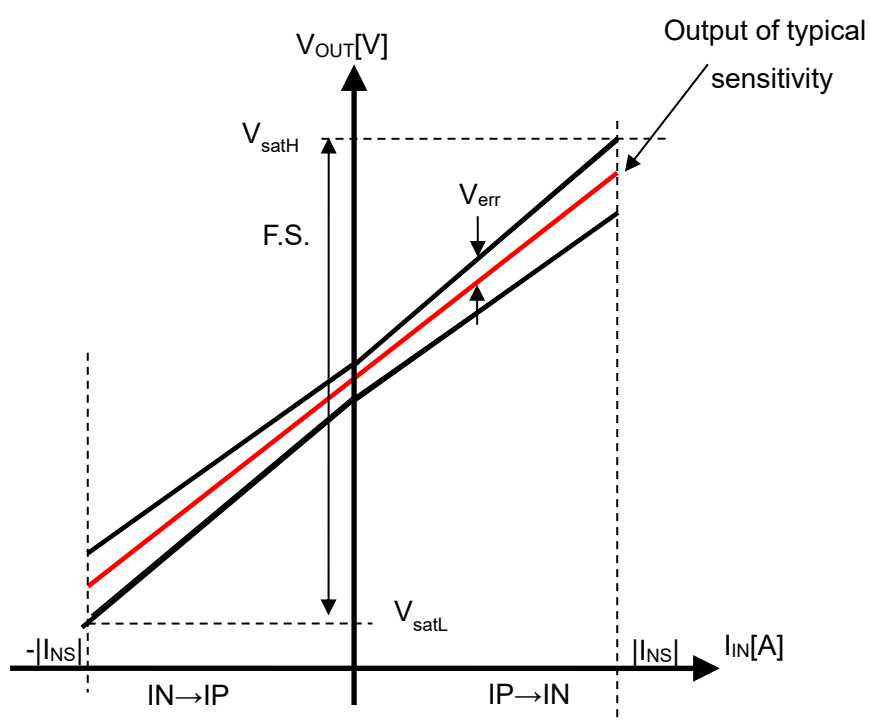

Figure 4. Total Accuracy of CZ-3A01
10.2. Total Accuracy E_{total} [%F.S.] is defined as below (See Figure 4.)